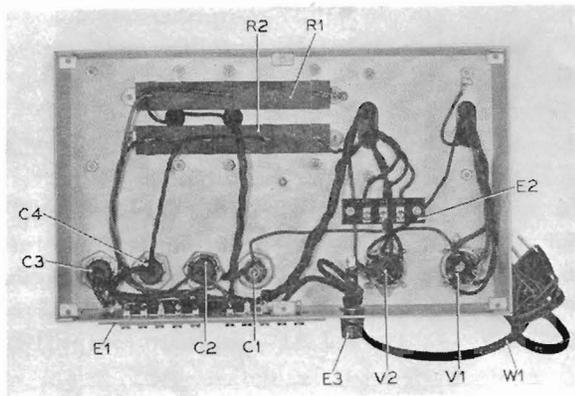

FIG. 5 Bottom view of power supply.
g. *Power Transformer Primary Tap:* Before plugging the power cord into the a-c line, remove bottom plate from Power Supply to see that power cord is properly connected for the a-c voltage of the power line being used. One wire of the power cord is permanently connected to the fuse-holder (E3, Fig. 5); the other wire is connected at the factory to one of the screw terminals on terminal strip E2 (Fig. 5). These screw terminals are marked 105, 115 and 125, and are connected to primary taps on the power transformer. See that the power cord is connected to the screw terminal most closely agreeing with the available a-c line voltage and replace the bottom cover plate.